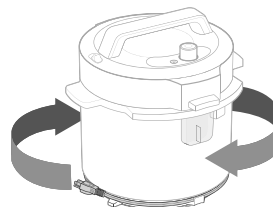

Figure 10.10
3. Wrap the power cord clockwise around the base of the pressure cooker so that it sits securely in the cord housing. **[Figure 10.10]**